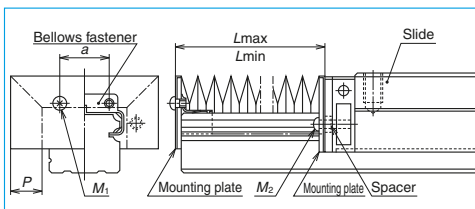

**Fig. 7.6** Inner seal when installed
- The end seal installed on both ends of a slide cannot stop all contaminants, though the missed amount is negligible. An inner seal protects the rolling contact surface from such contaminants which entered inside the slide (**Fig. 7.6**).